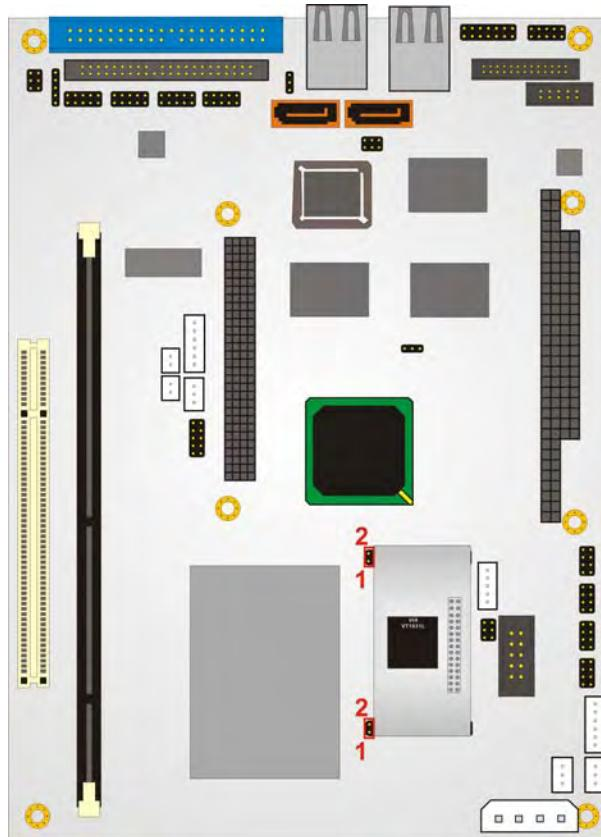

Figure 4-3: 24-bit LVDS 3907720 Connectivity
Step 6: Slide the 3907720 onto the connectors. Pin 1 and Pin 2 on both the J4 and J5 connector should be visible. See **Figure 4-3**.